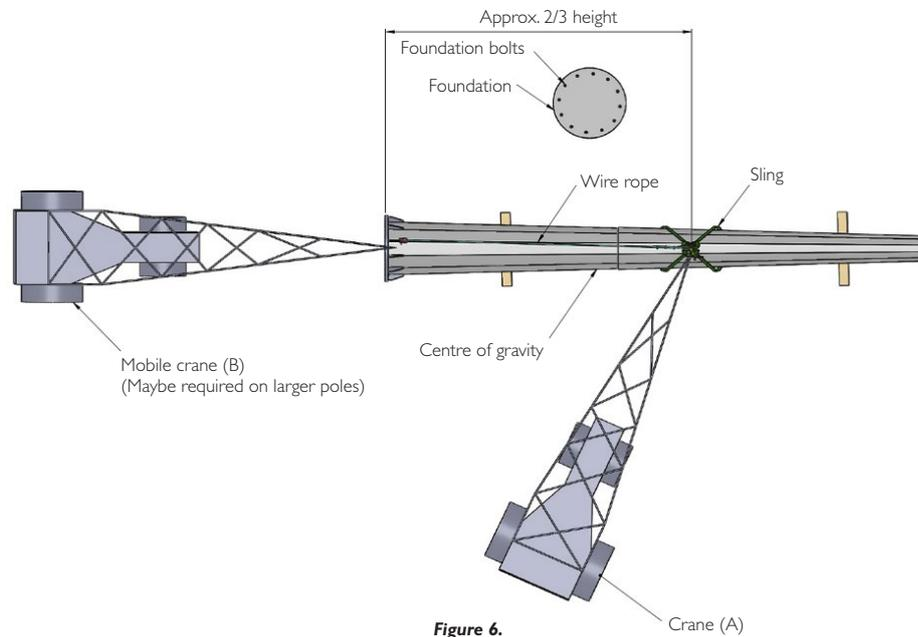
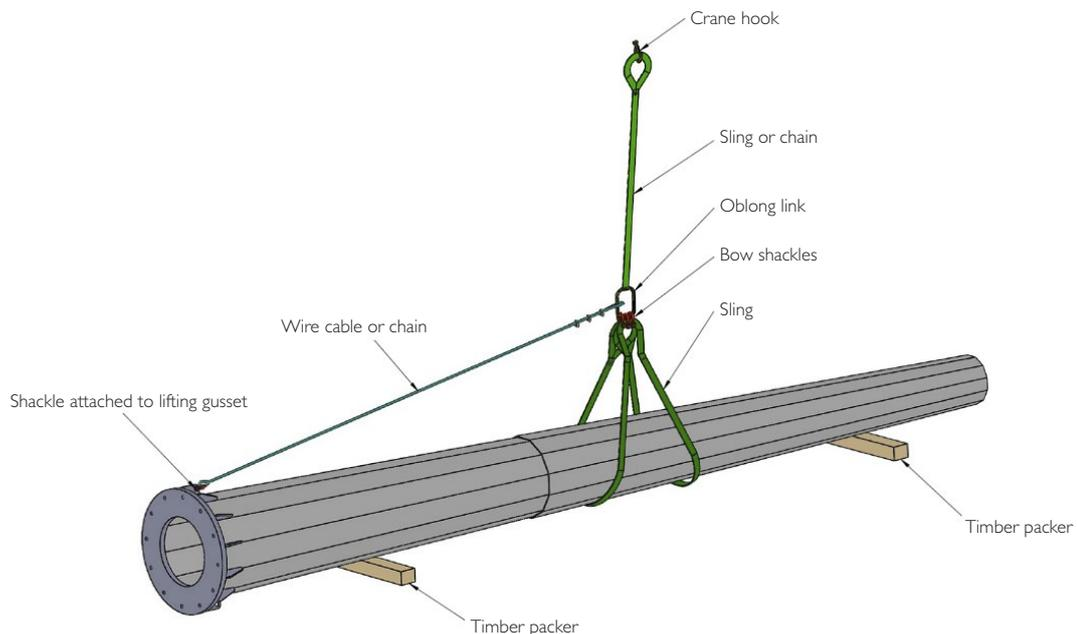

Figure 6.
Figure 7.
- 3.23** Centre the lifting crane (A) as shown in figure 6. Attach a sling formed into a cradle arrangement (see figure 6) at approximately two thirds of the pole height from the base. Attach shackles to the lifting sling and fix them to the link ring. Attach a lifting sling around the link ring and to the hook of the crane. Attach a wire rope, chain or hand winch between the base plate lifting lugs and link ring. Use appropriate shackles as required. The wire rope or chain should be made relatively tight prior to commencing to lift the assembled pole (refer figure 7). The purpose of the above arrangement is to ensure that the wire rope is taut as the pole is lifted, and to stop the cradle sling from slipping up the column while also transferring the lifting force back to the pole base. All lifting tackle must be checked for its capacity and adequacy for the mass of pole being lifted.
- 3.24** Figure 6 shows the sling around the pole as not choked and the method described ensures that the safety wire rope or chain will be taut and will prevent any pole sections separating in the unlikely event that a pole section joint has not been correctly assembled. A correctly assembled joint will not separate on lifting.
- 3.27** For some larger poles it may be necessary to use a small mobile crane (B) to "tail in" the base end of the column as the main crane (A) is lifting. This will avoid the base dragging on the ground and maintain control of the base until the pole is held vertical by the lifting crane (see figure 6).